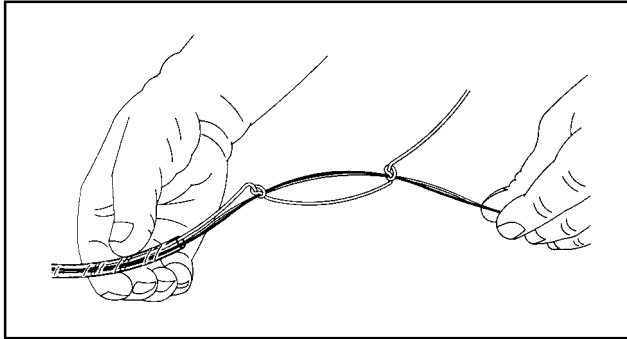

FIGURE 26 – PULL STRING THROUGH TRANSPORT TUBE
12.05 Gently pull the fiber group through the transport tube. (Figure 26)